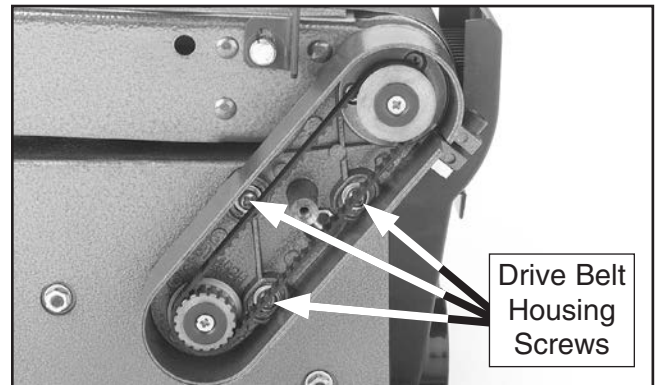

Figure 36. Example of drive belt housing screws.
- Remove drive belt cover plate (see **Figure 36**).
- Loosen (3) belt housing screws shown in **Figure 36** to relieve tension on drive belt.